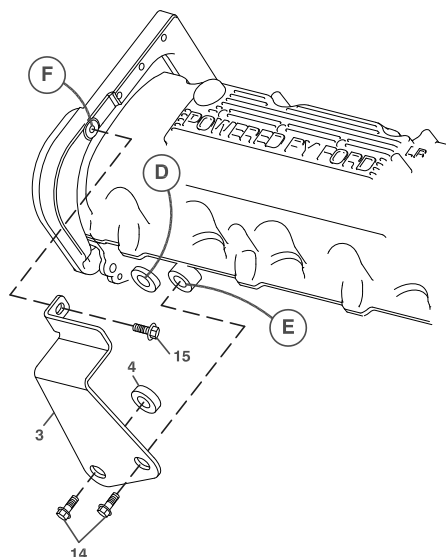

FIG. 7
3. Remove the two bolts mounting the resonator. Remove the resonator/air tube. Remove three alternator mounting bolts and remove the resonator mounting bracket (34). Install the new resonator bracket (34) with the OEM alternator bolts. Install the new resonator (33) using two M6 x 30 bolts (35) with two 1/4 flat washers (36).
4. Drain just enough of the engine coolant to remove the upper radiator hose from the engine water neck. Insert the hose splice (28) into the OEM radiator hose, push the short piece of radiator hose (29) onto the splice and onto engine with two 1.5" hose clamps (30). Unclamp the hose from the top front of the coolant tank (Location M), thread it between the power steering reservoir and the fan shroud and connect it back to the coolant tank. Replace coolant.
5. The supply hose for the power steering pump must be rotated to clear the new belt routing. Hold the spring clamp with locking pliers, and rotate the hose as far towards the driver side fender as possible. Using a cable tie (31), secure the steering hose to the radiator hose running between the coolant tank and the radiator. On 2012 and newer trucks, pull the wiring cable from the attachment point on the front of the driver's side valve cover at Location P, Fig. 7. Cut off that tab from the cover to give clearance for the belt.
6. Remove the rear bolt from the airbox attached to the fender and place the 1/2" heavy washer (8) between the airbox and the fender to angle the outlet tube forward. Reinstall the OEM bolt.
7. Remove the three bolts on the lower portion of engine at Locations G, H, and J. Install the idler bracket (2) with two M8 x 65 hex head bolts (12) and two M8 flat washers (17) at Locations G and J. Insert the M8 x 60 low head socket head bolt (11) at Location H. Install the flat idler (6) with 3/8 x 1 1/2 bolt (16) and 3/8 flat washer (18) at Location L.
8. Install the pump bracket brace (3) to the two large threaded holes on the side of the cylinder head at Locations D and E, placing the bushing (4) between the front hole and the bracket using M16 x 35 flange bolts (14). Do not completely tighten.
9. Remove the OEM flat idler at Location K. Remove the OEM stud bolt holding the wiring clip at Location N. Let the wiring rest below the pump. Remove the three bolts at locations A, B, and C. Install the pump bracket (1) with three M8 x 50 hex bolts (13) and three M8 flat washers (17). Fasten brace to pump bracket with 3/8 x 3/4 flange head bolt (15) through brace into back of pump bracket. Tighten all the bolts on the brace. Install the 6-groove idler (7) at Location K with the OEM bolt.
10. Mount the pump (10) to the back of the pump plate (5) with two 3/8 x 1 1/4 bolts (21) and two 3/8 flat washers (22). Install fittings to pump, then install pump plate with three 3/8 x 1.25 socket head bolts. Mount the clutch coil (10a) to the pump bracket with four 1/4 x 1/2 flange bolts (10b). Mount the clutch pulley (10c) to the pump shaft with the 5/16 x 1 1/4 bolt (10d) and heavy flat washer (10e) making sure the key is in place on the shaft.
11. Install belt (32) according to diagram.
12. Place elbow (25) onto airbox with 3.5" clamp (26). Insert DewEze air tube (23) into elbow using a 3.5" clamp (26). Place 3.5" end of reducer onto air tube using 3.5" clamp (26), also pushing 4" end onto air intake using the 4" clamp (27). Make sure there is clearance between the air tube and the clutch. Adjust the air tube and elbow by twisting them if needed.